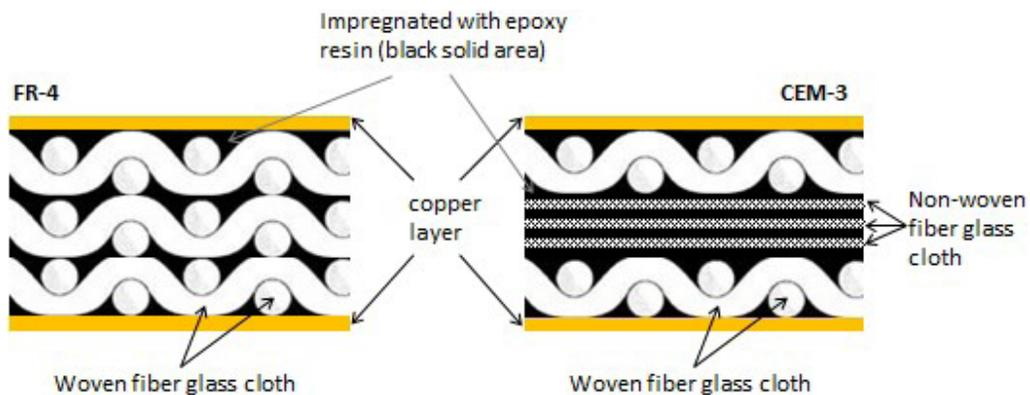

Figure 6. Cross section of a FR-4 and CEM-3 PCBs. Not drawn to scale; for illustration purposes only.
- FR-4 (woven fiber glass fabrics reinforced epoxy laminate, Figure 6) sheet or CEM-3 (composite epoxy material constructed from both woven and non-woven fiber glass fabrics, Figure 6). These two materials have excellent electrical insulation properties but have very poor thermal conductivity. Between these two, CEM-3 thermal conductivity is generally better than FR-4. For detail specifications of PCB, refer to a standard generated by Association Connecting Electronics Industries, (www.ipc.org), IPC-4101C "Specification for Base Materials for Rigid and Multilayer Printed Boards" standard.